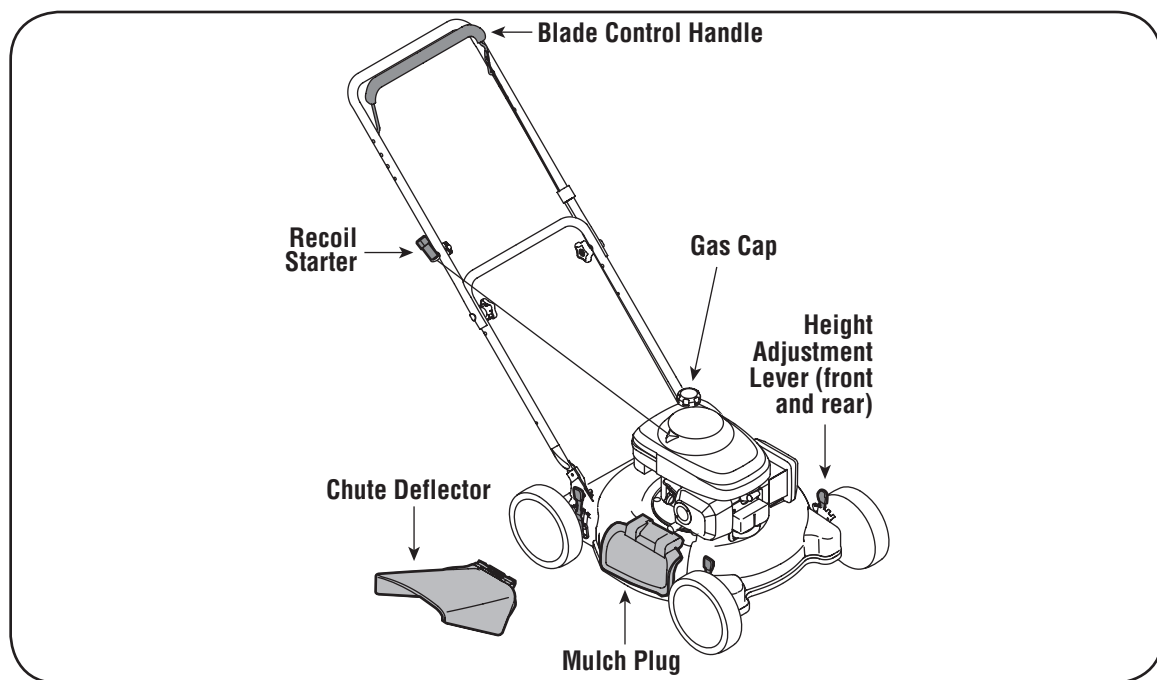

Figure 1
2. Service the engine with gasoline as instructed in the engine operator's manual. See Figure 1 above for location of gas cap.